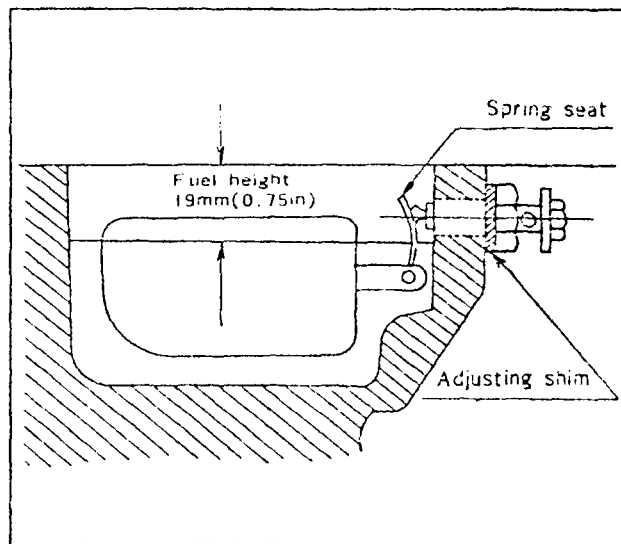

Fig. 3-5 Adjusting of Fuel Level
- (1) Measure the distance between the upper side of the carburettor case and the fuel level.
- (2) Adjust the fuel level by bending the float spring seat or fitting the shim in the nipple portion. Refer to Fig. 3-5.